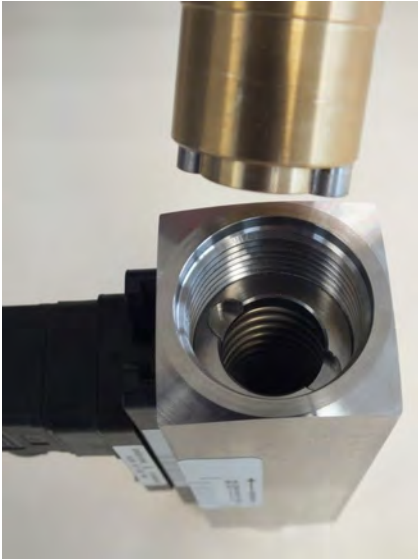

Fig. 46: Insert threaded ring insertion tool (outlet)
- 14.** Insert the threaded ring insertion tool into the outlet side of the device body (flow monitor) (Fig. 46) and turn until it rests in the keyway of the threaded ring